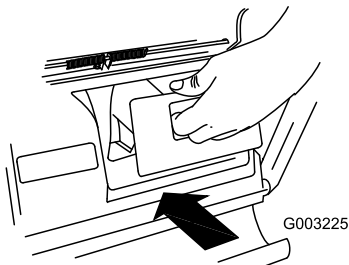

Figure 23
**Important:** Ensure that the rear discharge plug is in place before you recycle the clippings (Figure 23).